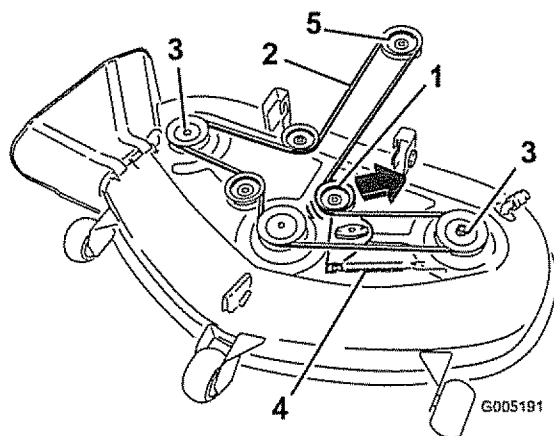

Figure 55
5. Pull the idler pulley in the direction shown in Figure 55 and roll the belt off of the pulleys.
6. Route the new belt around the engine pulley and mower pulleys (Figure 55).
7. Pull the idler pulley in the direction shown in Figure 55 and route the belt onto the idler pulley (Figure 55).